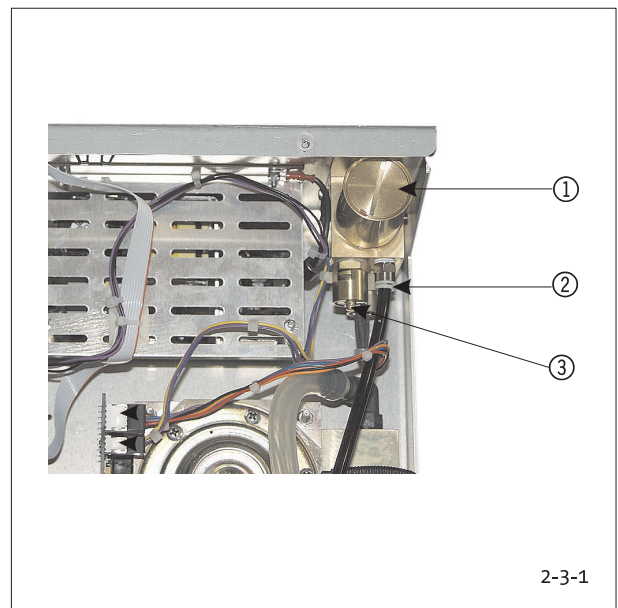

Fig. 2-3-1: Position of High Pressure Unit HPU
2. Use a felt marker to mark the position of the adjustment screw ① of the high-pressure controller (Fig. 2-3-1).